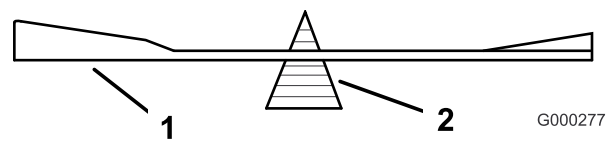

Figure 52
2. Check the balance of the blade by putting it on a blade balancer (Figure 52). If the blade stays in a horizontal position, the blade is balanced and can be used. If the blade is not balanced, file some metal off the end of the sail area only (Figure 52). Repeat this procedure until the blade is balanced.